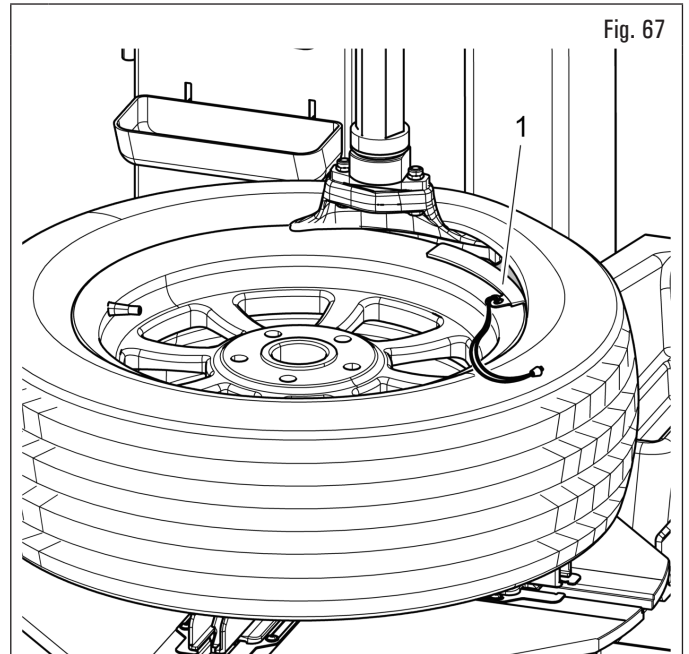

Fig. 67
If the rim is made of sheet metal, use the bead protector (Fig. 67 ref. 1).